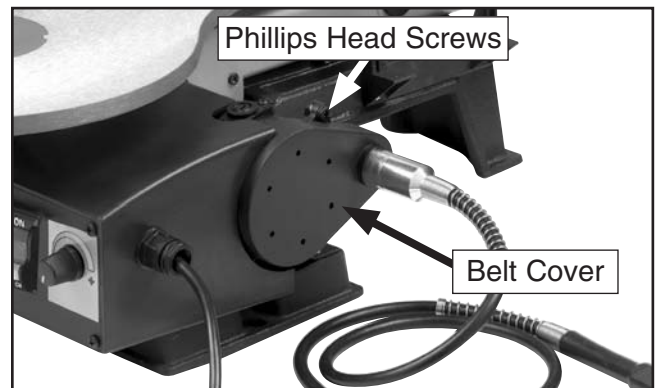

Figure 38. Location of timing belt cover screws.
3. Remove the three screws that secure the belt cover shown in **Figure 38**, then remove the cover.